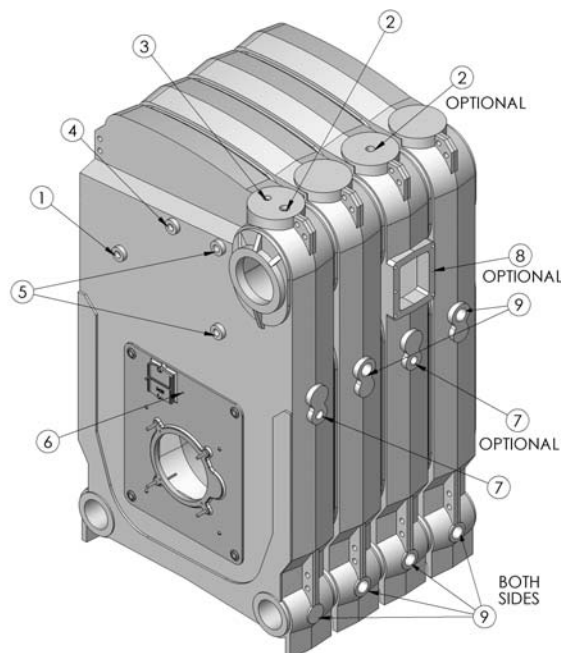

Figure 3.16: Control Connection Locations
- Mount an optional Float-type Low Water Cutoff (LWCO) in the tapplings provided in the top and side of the Front Section or the Intermediate LWCO Section (this optional section is located at the third section from the front when supplied). See Figure 3.16 for the location of control connection tapplings.
Table 3.4: Control Connections Sizes (See Figure 3.16)